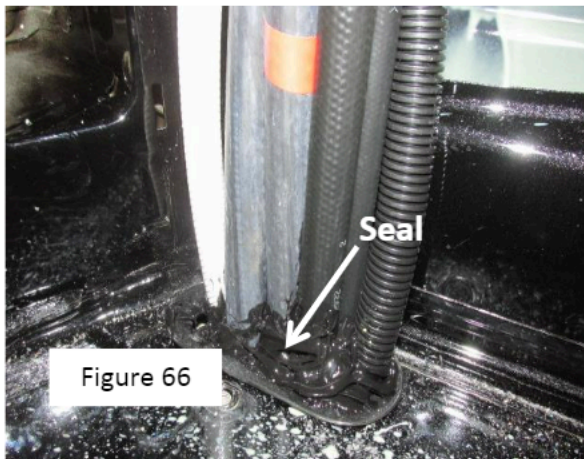

Figure 66
34. With the installation now complete, seal all holes with silicone seal. This includes holes created for hoses/wiring harnesses to enter and exit the vehicle (Figure 66). This is to keep out moisture and contaminants. Also apply silicone behind the water valve and any locations where hoses come in contact with any vehicle structures (Figure 67), especially OEM related components.